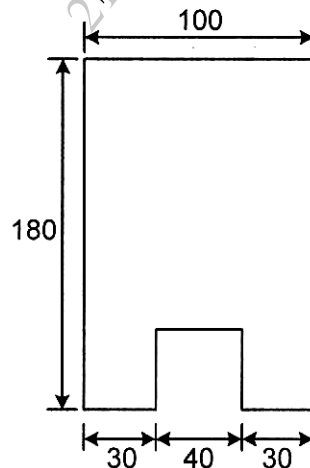

Fig.2
- b) A groove $40\text{ mm} \times 40\text{ mm}$ is cut symmetrically at the bottom of a rectangular beam section as shown in fig.2. If the tensile stresses shall not exceed 25 N/mm^2 , Find the safe uniformly distributed load which the beam can carry on a simply supported beam of a span 4 m . (All dimensions are in mm)